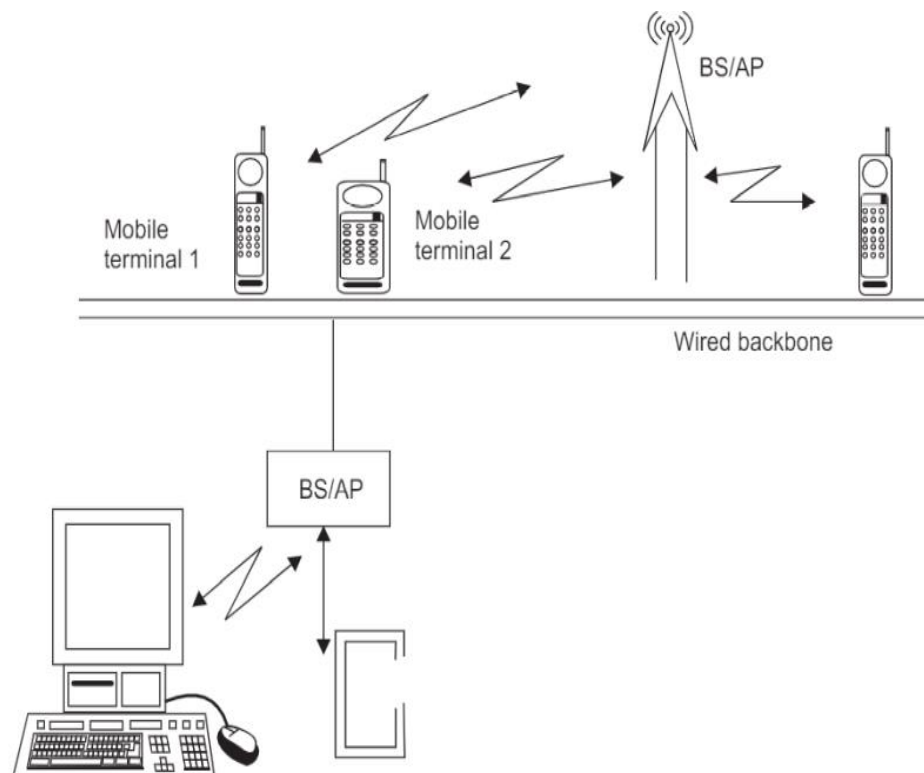

Fig 5.6 Infrastructure network topology.
- This topology is often designed for large coverage areas and multiple base stations (BS) or access point (AP) operations. Figure 5.6 shows the basic operation of an infrastructure network with a single base station.
- Base station (BS) serves as the hub of the network and mobile terminals are located at different positions at the ends of spokes.